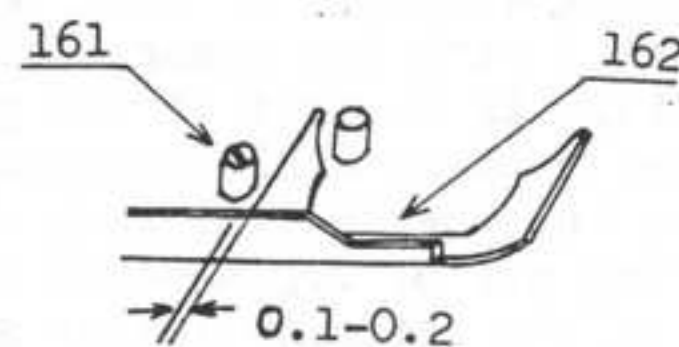

Fig 7
Be sure that as shown in Fig. 7 a space between the side of Counter drive arm "A" (162) and Drive arm pin (161) is 0.1 to 0.2 when Wind lever (157) has slowly returned to its rest position after it was wound up.